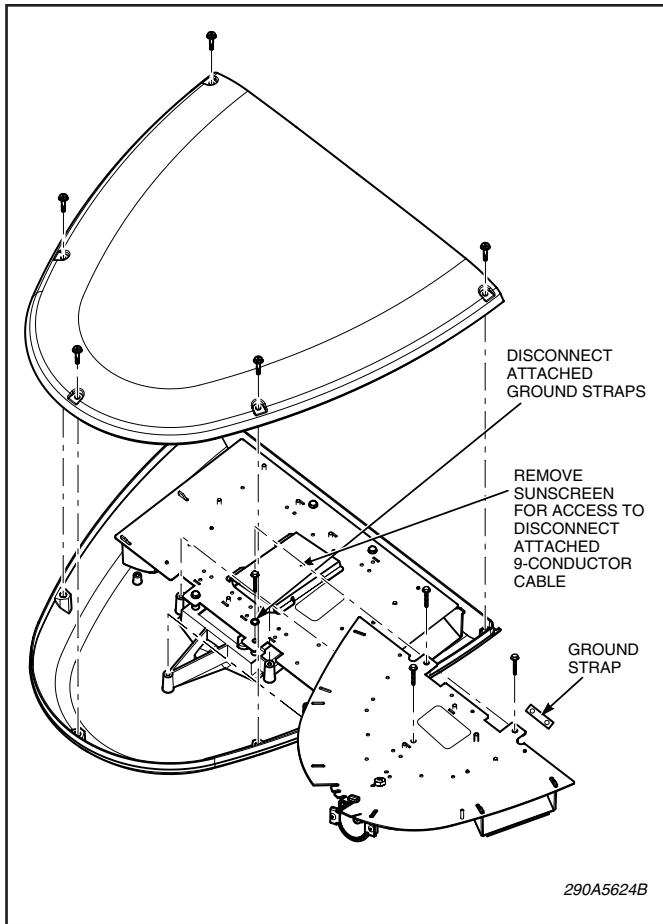

Figure 2. 2005395 Panel Replacement.
3. See figure 2. For replacing the 2005395 panels (finished model number (S25395) ('D' shaped) within the end domed section, proceed as follows: